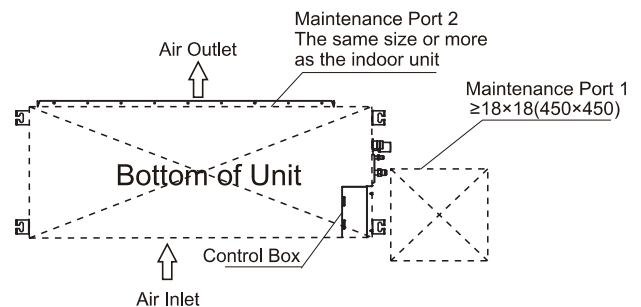
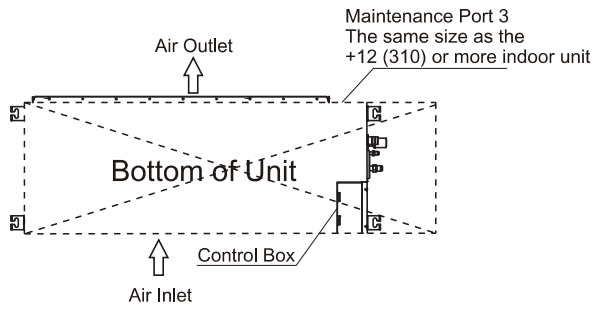

Fig. 3.1.3
Fig. 3.1.4
When the height (H) from the ceiling to the bottom plate of the unit is <12 in.(300 mm), access holes are required, as shown in Fig. 3.1.3, Fig. 3.1.4.